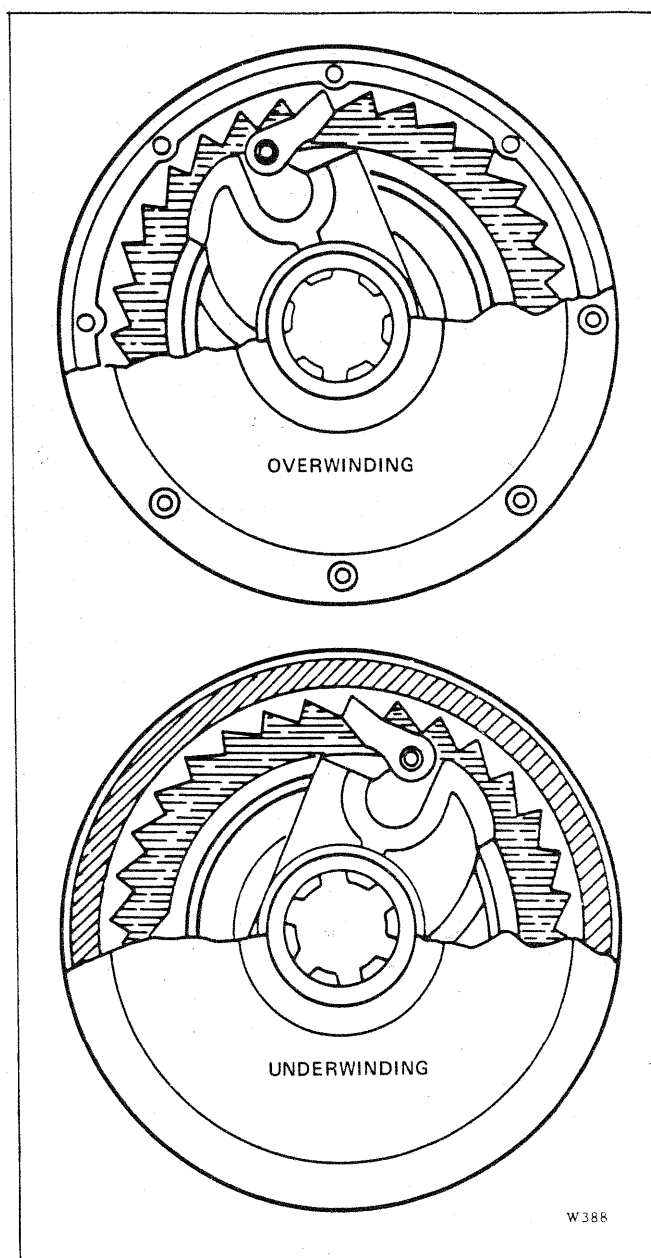

FIGURE 4-8. AUTOMATIC BRAKE OVERWIND AND UNDERWIND ARRANGEMENT
b. Automatic Brake (Optional). (See Figure 4-8.) Remove the automatic brake assembly and reinstall so that the word **OVERWINDING** is facing to the outside.
- b. **Automatic Brake (Optional).** (See Figure 4-8.) Remove the automatic brake assembly and reinstall so that the word UNDERWINDING is facing to the outside.